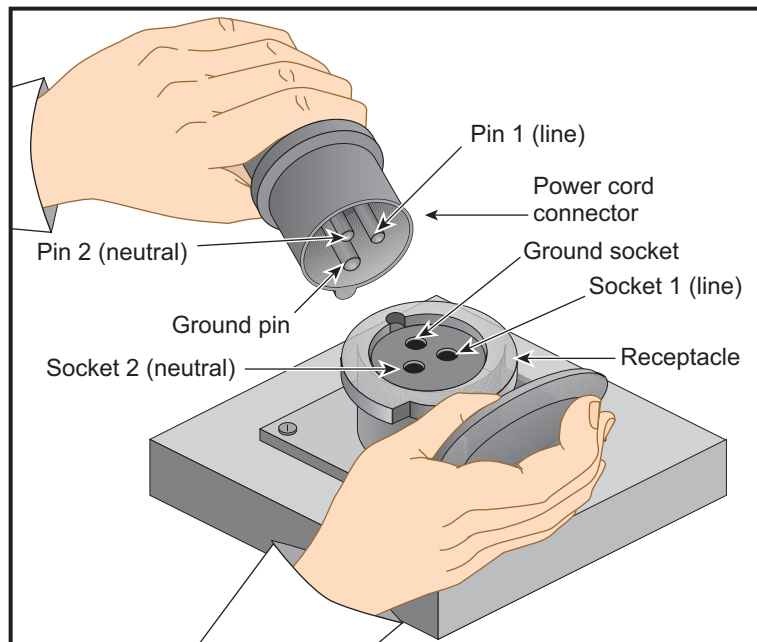

Figure 1-4 32-amp Single-phase Power Plug for International Sites
2. Check the voltage between socket 1 and socket 2 (see Figure 1-4). The meter should read between 200 and 240 VAC.